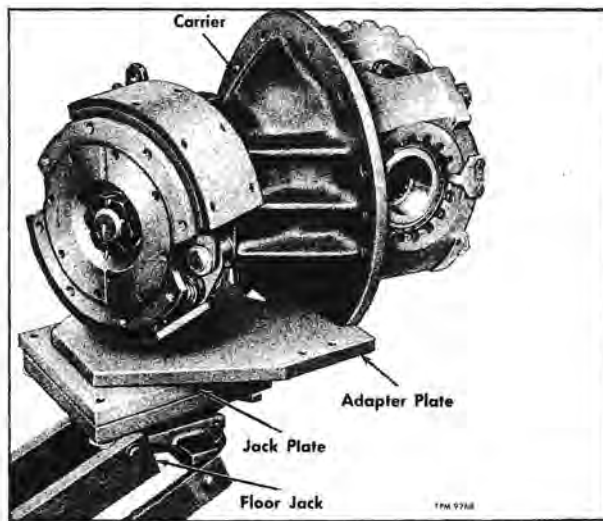

Figure 5—Carrier Assembly Removed
15. Pull the carrier assembly back as far as possible. Tilt the gear end of the carrier assembly up until it clears the yoke. As the carrier is moved out of the housing, move it down and to the right to clear all obstructions. (Refer to figure 5, showing carrier removed.)